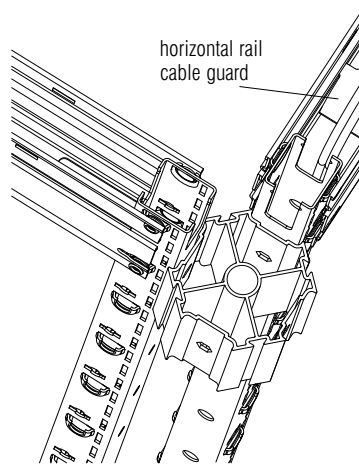

Figure 66
1. Run data cabling vertically through the notch in the end of a horizontal rail. Use a horizontal rail cable guard to enforce a 1" minimum bend radius. **Figure 66.**